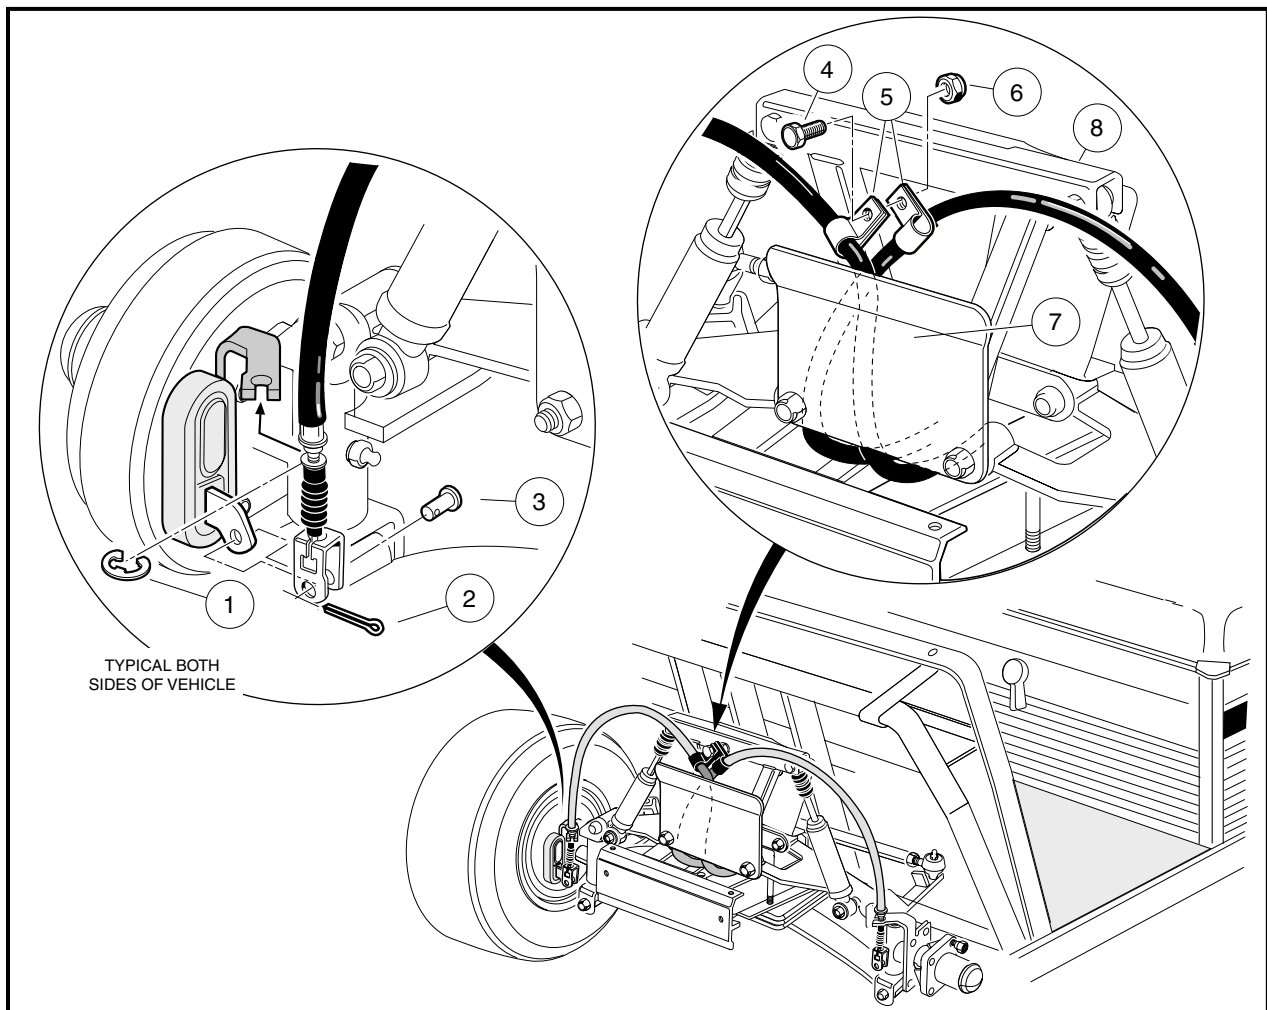

Figure 6-30 Front Brake Cables
1. Remove cotter pin (2) and clevis pin (3) from brake lever arm on front brake cluster (**Figure 6-30, Page 6-18**).
2. Remove E-clip (1) from brake cable housing at the front spindle bracket and remove cable from spindle (**Figure 6-30, Page 6-18**).
4. Remove bolt (4) and nut (6) from brake cable clamp (5) (**Figure 6-30, Page 6-18**).
- Route brake cable between the shock support (8) and brake cable guide bracket (7) (**Figure 6-30, Page 6-18**). Secure brake cable retainer clips (5) with a bolt (4) and nut (6) (**Figure 6-30, Page 6-18**).
- Install brake cable through the front spindle brackets and install E-clip (1) (**Figure 6-30, Page 6-18**).
- Install brake cable clevis onto brake lever arm and install clevis pin (3) and a new cotter pin (2) (**Figure 6-30, Page 6-18**).